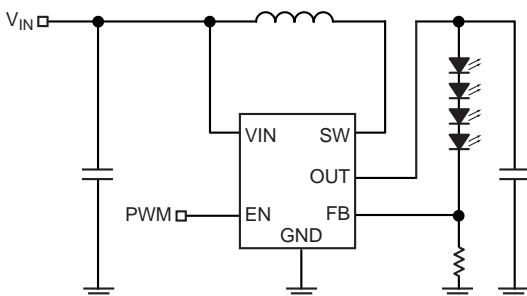

Figure 1. PWM Dimming Method
1. PWM dimming control is implemented by applying a PWM signal on EN pin as shown in Figure 1. The MIC2289 is turned on and off by the PWM signal. With this method, the LEDs operate with either zero or full current. The average LED current is increased proportionally to the duty-cycle of the PWM signal. This technique has high-efficiency because the IC and the LEDs consume no current during the off cycle of the PWM signal. Typical frequency should be between 100Hz and 10kHz.